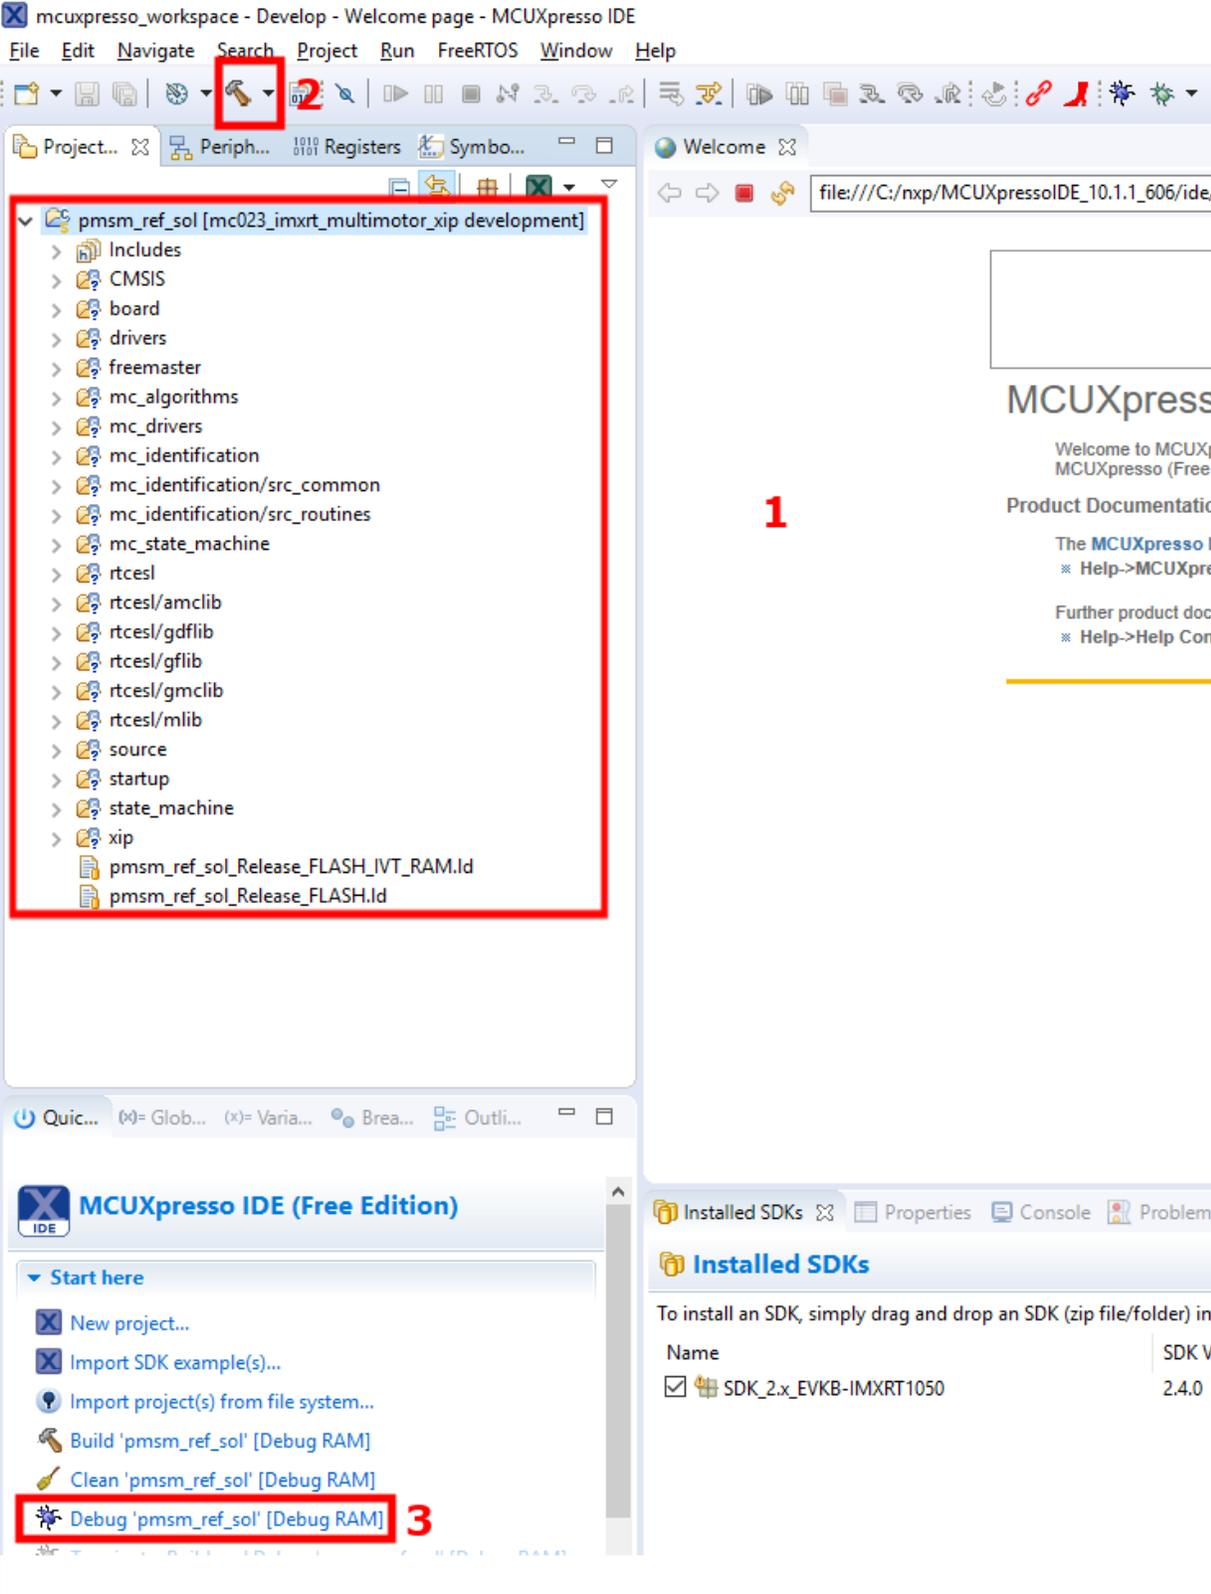
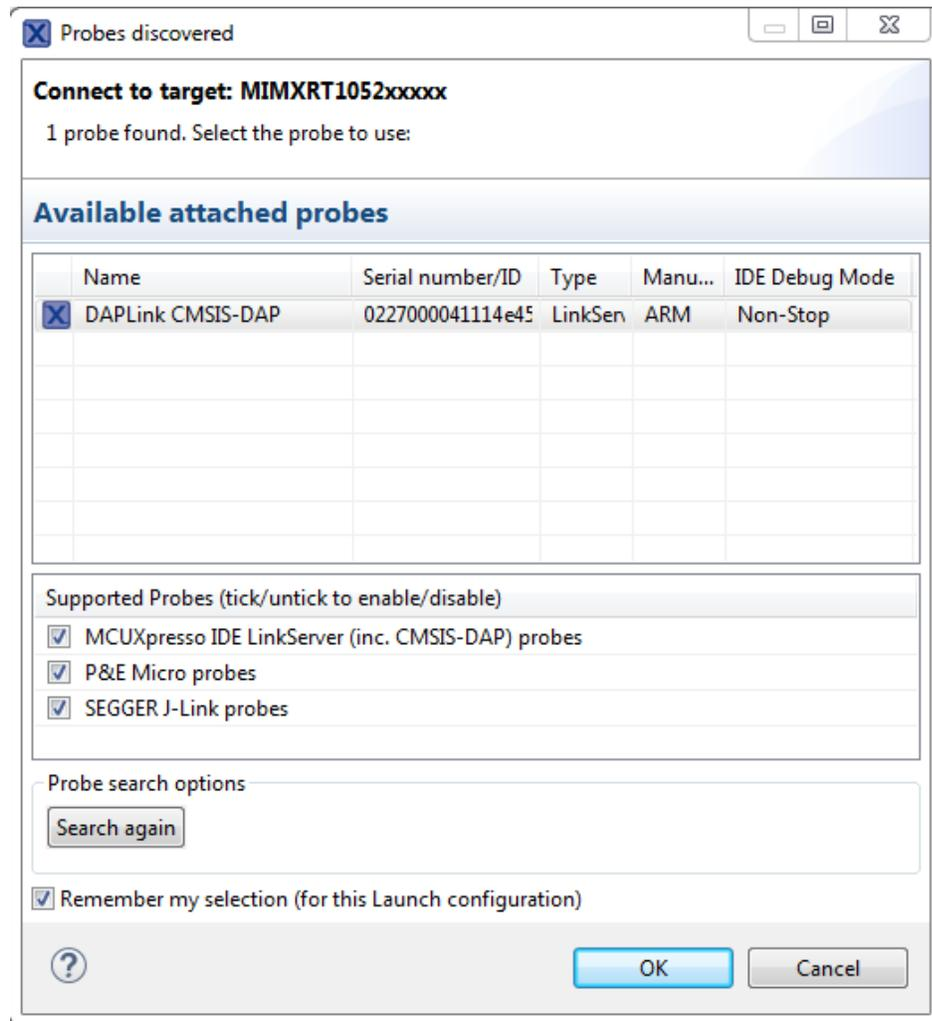

Figure 20. MCUXpresso workspace
Figure 21. MCUXpresso discovered probes
Now you see the MCUXpresso’s workspace with the PMSM project imported (Figure 20). The project in the MCUXpresso IDE is fully configured and includes all necessary source and header files required by the application, such as the startup code, clock configuration, and peripherals configuration.
1. Select the “Debug RAM” build configuration (Point 2 in Figure 20).
2. Click the “Build” button (Point 2 in Figure 20).
3. Create a new debug configuration by clicking the “Debug” button (Point 3 in Figure 20). A new window with the discovered probes appears (see Figure 21). Choose “DAPLink CMSIS-DAP” and click the “OK” button.
2. Select the “Release FLASH” build configuration (Point 2 in Figure 20).
3. Click the “Build” button (Point 2 in Figure 20).